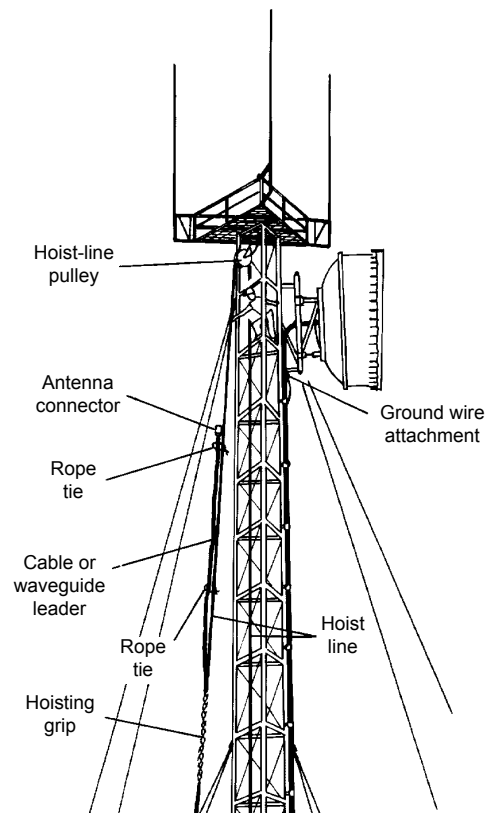

Figure 7
7. Attach the hoist line to the grip. **See Figure 7.** Tie the cable leader to the hoist line so that the leader does not dangle. Apply tension slowly to the hoist line to allow the hoisting grip to tighten uniformly on the cable.